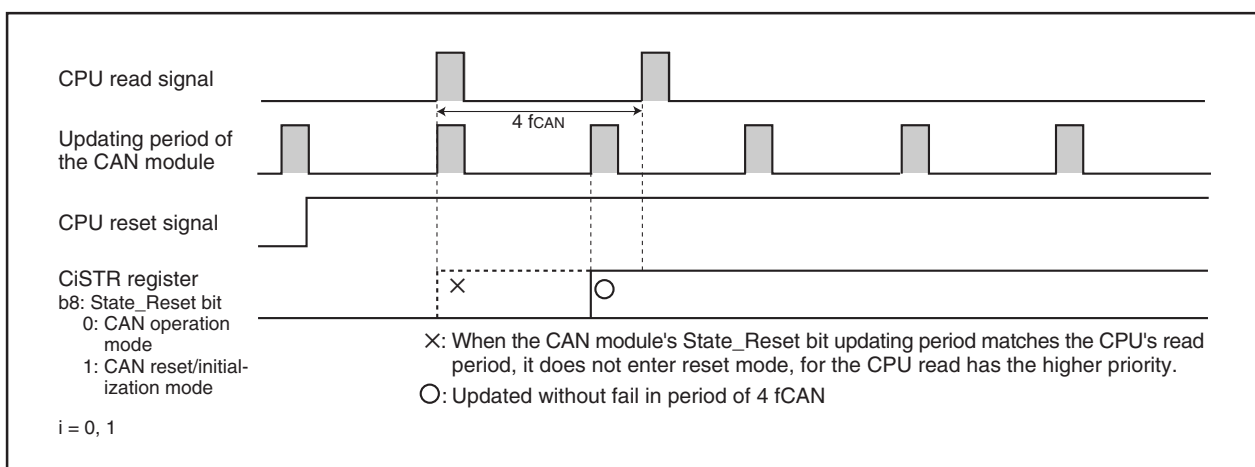

Figure 23.5 When Polling Period of CPU is 3 fCAN or Longer
- (b) When the CPU polls the CiSTR register, the polling period must be 3 fCAN or longer. (See **Figure 23.5 When Polling Period of CPU is 3 fCAN or Longer.**)